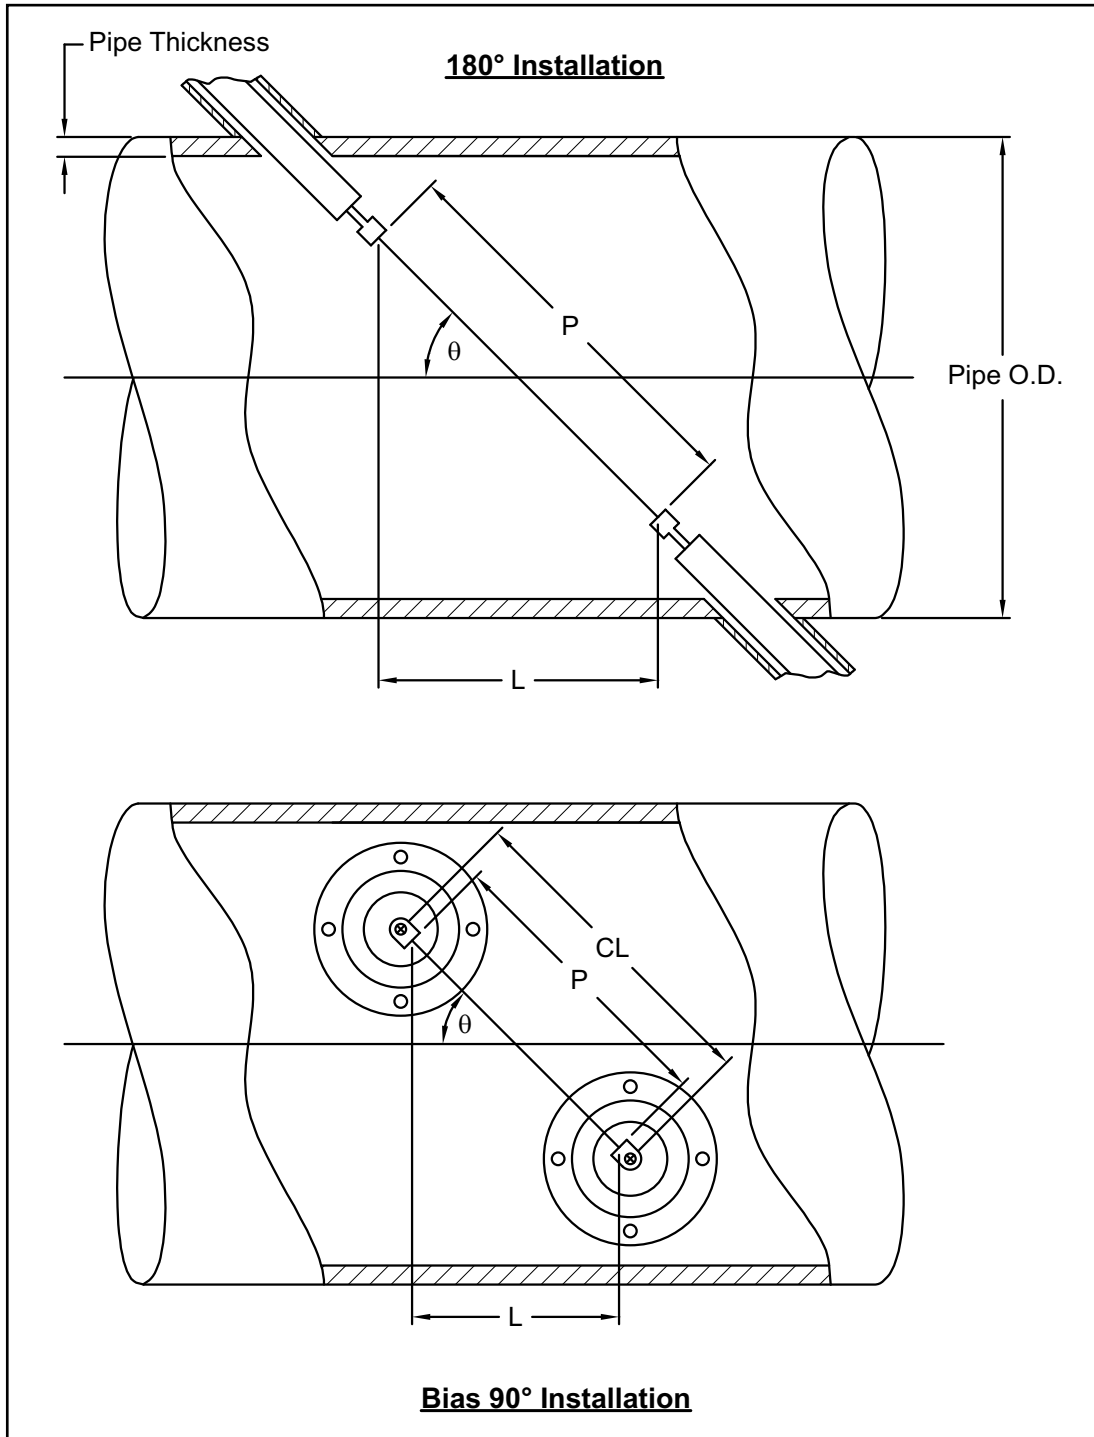

Figure 18: Top View of Transducer Installations
The accuracy of the programmed P and L values is critical to precise flow rate measurements. If Panametrics supplies the flowcell for the system, the correct values will be included in the documentation supplied with the unit. For transducers installed on an existing pipe (see *Figure 18 on page 58*), P and L must be measured at the site. This appendix provides instructions for properly determining these dimensions.
Whenever possible, physically measure the face-to-face distance (P) and the axial distance (L) between the centers of the flat faces of the transducers. Refer to *Figure 18 on page 58* for an illustration of the proper distances to measure in a typical installation.
With a Bias 90° transducer installation, it sometimes happens that the only known parameters are the transducer angle (θ) and the centerline distance between the transducer bodies (CL). In these cases, it is still possible to calculate both P and L by combining Equation D-1 above with Equation D-2 below (see *Figure 18 on page 58*):